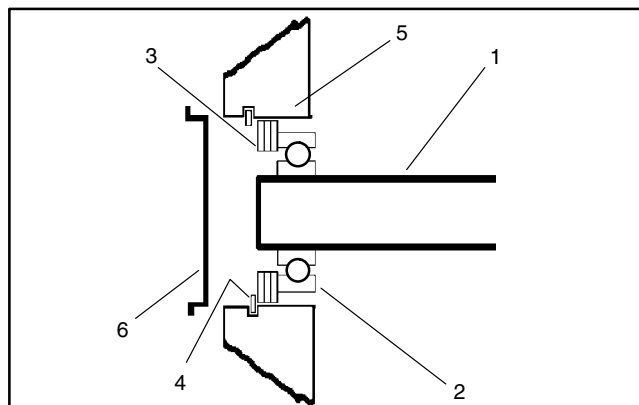

Figure 96
22. Install snap ring into the groove of the bearing housing (Fig. 96 and 97).